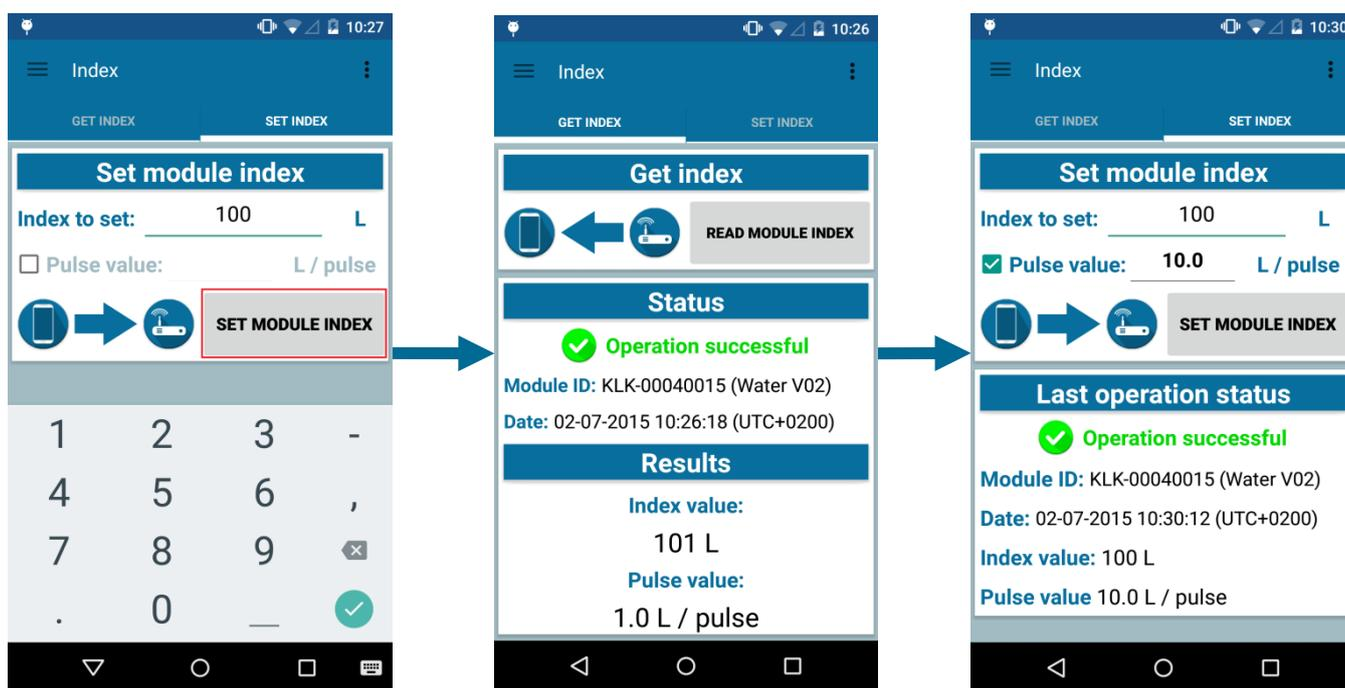

Figure 24: Set index operation
- Status of the operation, index value and pulse value are displayed on the screen as follows (Figure 24):